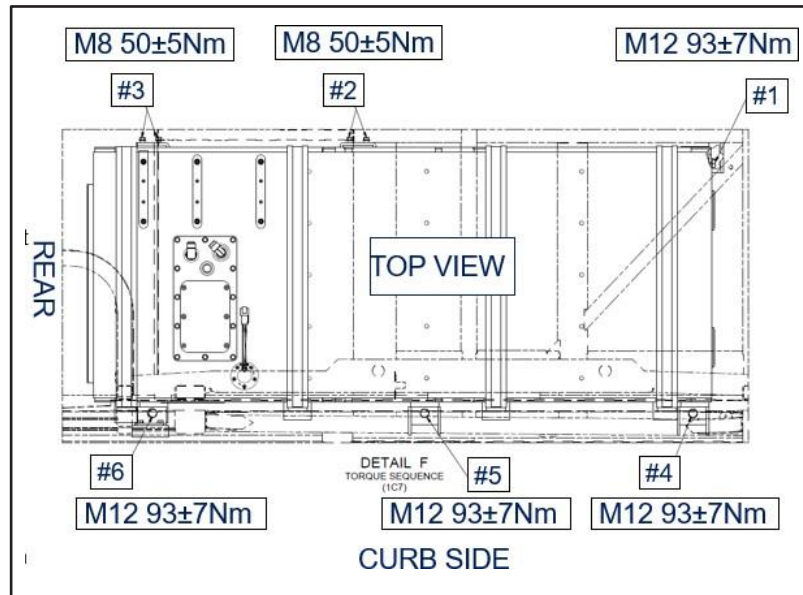

Figure 3 - Torque sequence for fuel tank cradle
JUSTIFICATION:	Potential presence of a gap may cause frame crack. Only to perform during a frame crack repair process near front bolt of joint #2 (see figure 3 for joint #2 location).
1.9. Torque fasteners to the values and sequence (see figure 3).